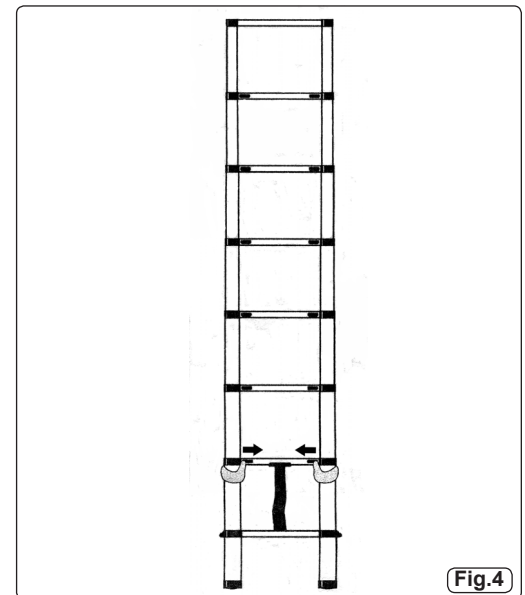

Fig.4
4.4 Retracting the Ladder (Fig.4)